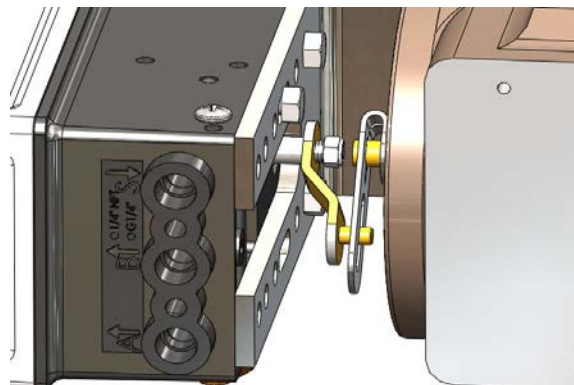

Figure 5: Valtek Rotary
- 7 Rotate follower arm so the follower pin will slide into the slot on the take-off arm. Over-rotate the follower arm if needed so the arm moves freely through the intended travel. (Figure 5)